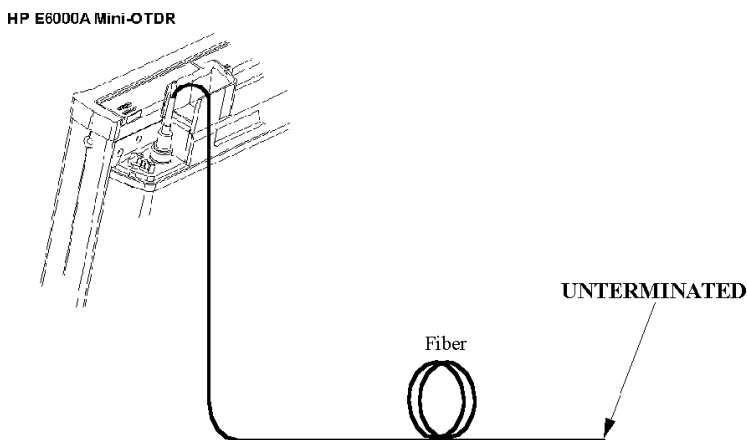

Figure D-10
- 1 Connect the equipment as shown in Figure D-10.